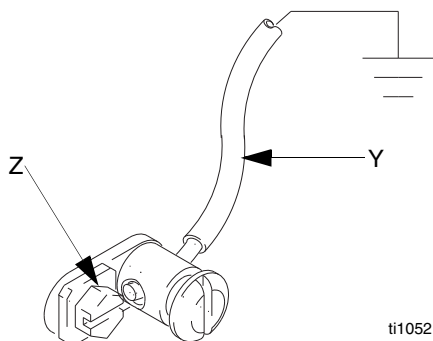

FIG. 1
Pump: remove the ground screw (Z) and insert through the eye of the ring terminal at end of ground wire (Y). Fasten the ground screw back onto the pump and tighten securely. Connect the other end of the ground wire to a true earth ground. See FIG. 1. *To order a ground wire and clamp, order Part No. 222011.*